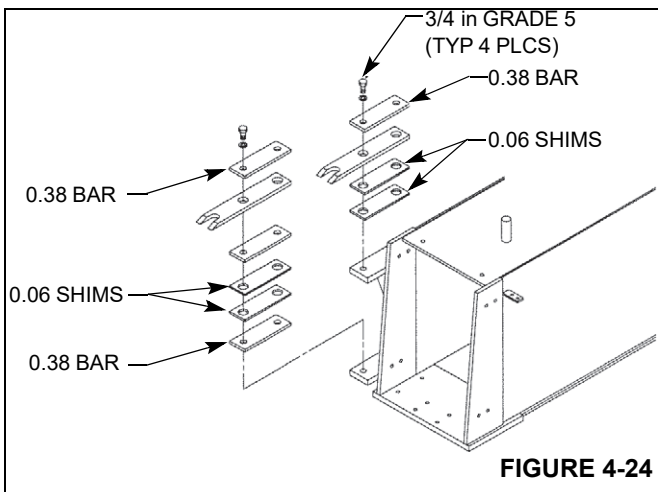

FIGURE 4-24
1. Loosely bolt the two ear assemblies with shims and bars as shown in Figure 4-24 to the side of the first boom section.